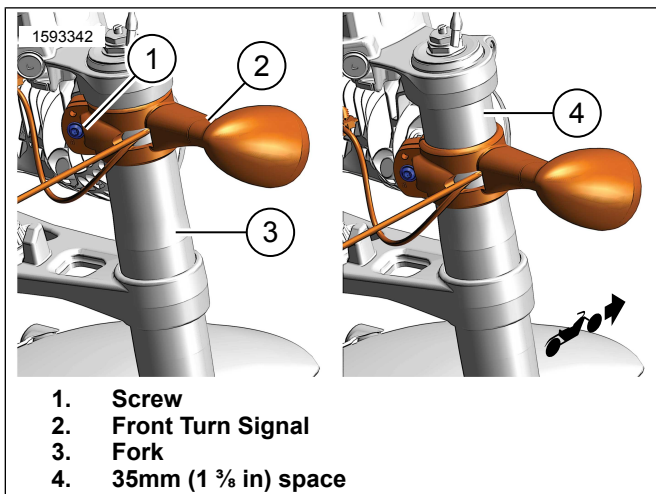

Figure 4. Relocate Turn Signal Brackets
1. Figure 4 Loosen screw (1) on front turn signal (2).
2. Move front turn signal (2) approximately 35mm (1 3/8 in) (4) down fork tube (3).
3. Tighten screw (1).